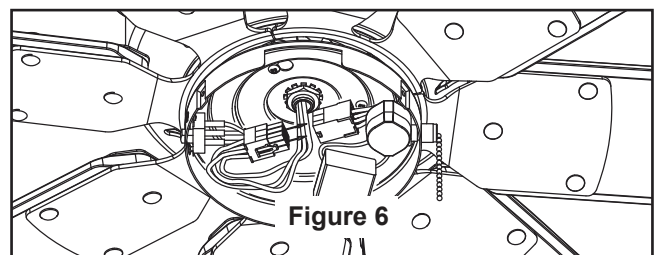

Figure 6
- 9. Securely attach 9-pin connector from motor assembly to wiring harness socket within switch cover assembly. (Figure 6)